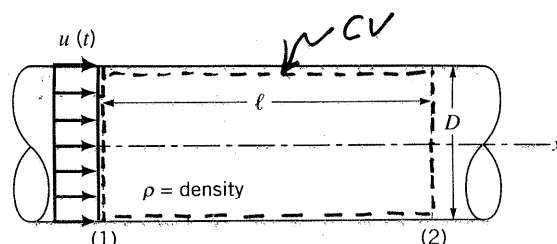

FIGURE P5.45
5.45 Consider unsteady flow in the constant diameter, horizontal pipe shown in Fig. P5.45. The velocity is uniform throughout the entire pipe, but it is a function of time: $V = u(t)\hat{i}$. Use the x component of the unsteady momentum equation to determine the pressure difference $p_1 - p_2$. Discuss how this result is related to $F_x = ma_x$.